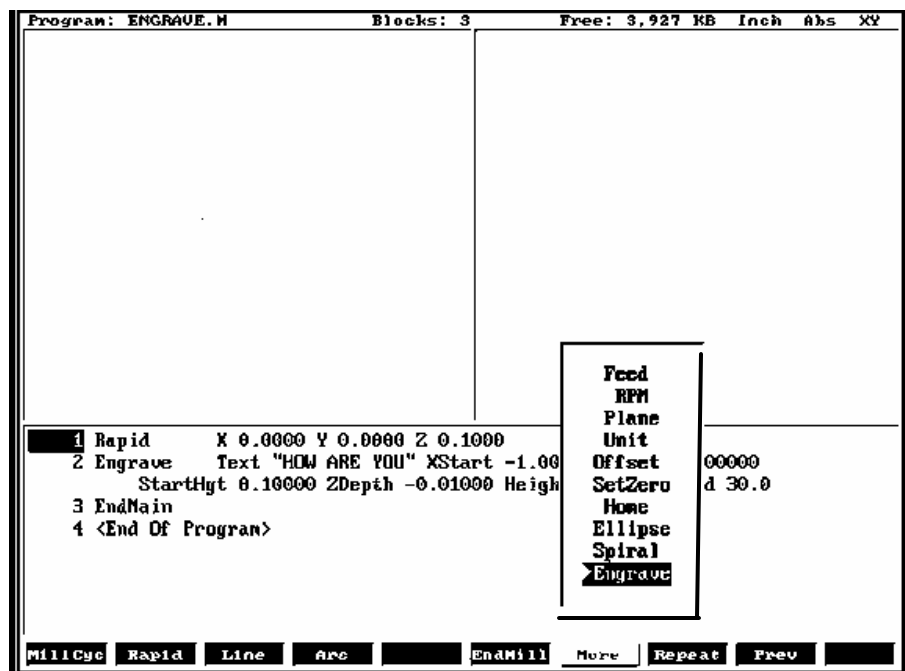
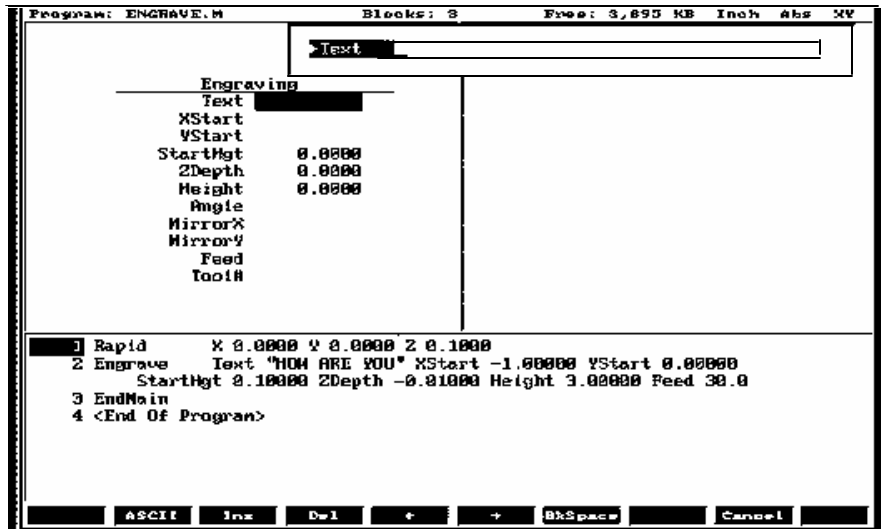

Figure 5-48, More Pop-up Menu
Figure 5-49, Engraving Cycle Screen
1. In Edit mode, press **Mill (F5)** and **More (F7)** to display the More pop-up menu, **Figure 5-48**. Highlight **Engrave** and press **ENTER** to display the Engraving Cycle screen, **Figure 5-49, Engraving Cycle Screen**.